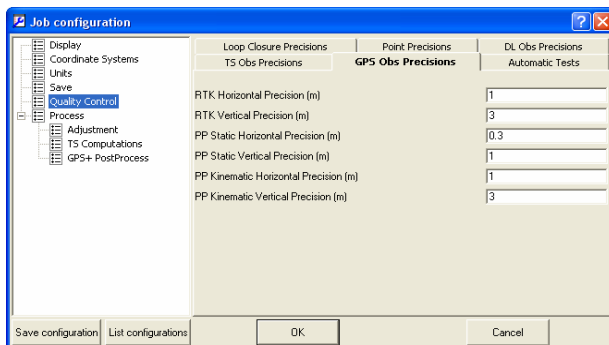

Figure 2-32. Job Configuration – GPS Obs Precisions
- The *GPS Obs Precisions* tab sets horizontal/vertical precisions for RTK vectors and static/kinematic GPS post processing vectors (Figure 2-32 on page 2-21). If the values for horizontal